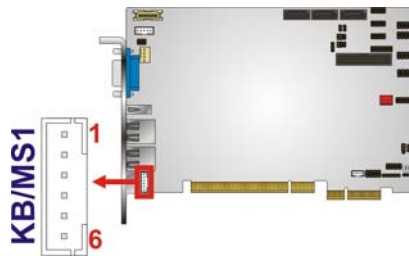

Figure 3-12: Keyboard/Mouse Connector Location
- CN Location:** See Figure 3-12